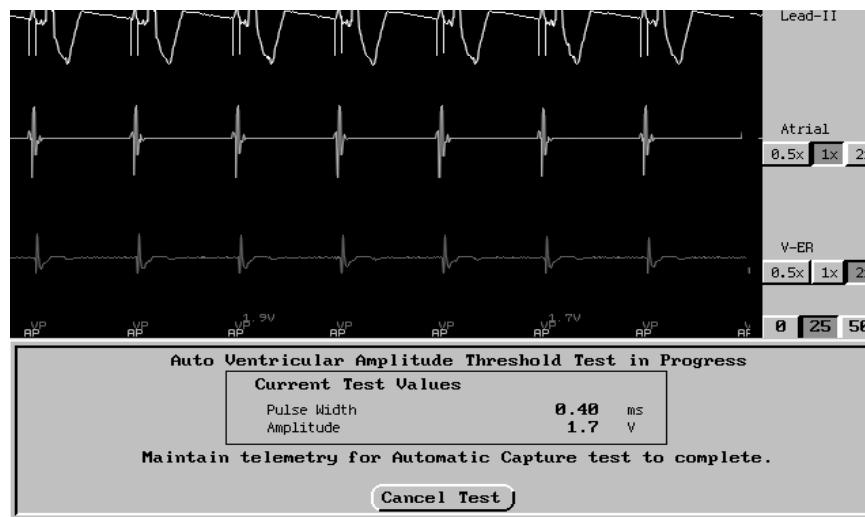

Figure 7-10. The Auto Ventricular Amplitude Threshold Test in Progress.
Follow these steps to perform an Automatic Threshold Test (Figure 7-10):
- To view the Evoked Response EGM during the test, select the V-ER option from the lead selection boxes to the right of the EGM display (Figure 7-10).